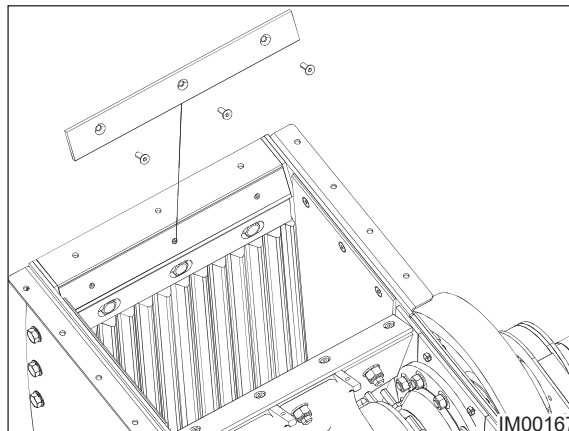

Fig: 11.27 - Wedge Protector Plate
4. Remove the Wear Plate (Fig: 11.27) and discard old counter-sink bolts.